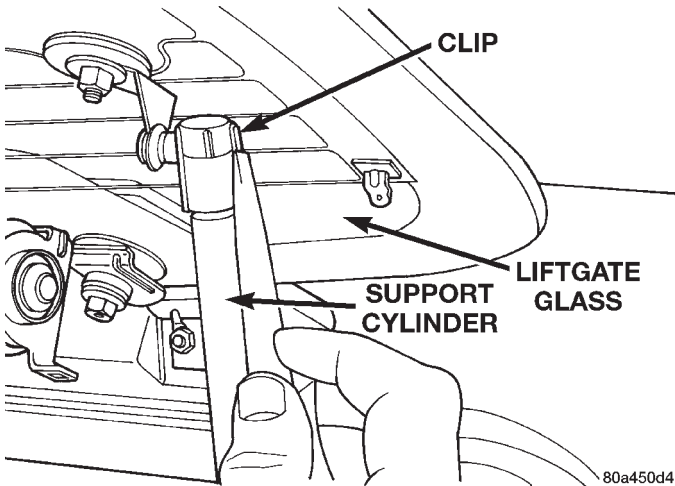

Fig. 73 Support Rod Cylinder
(1) Open and support the liftgate glass.
(2) Remove the support rod cylinder retaining clips at both ends of each support rod cylinder (Fig. 73).